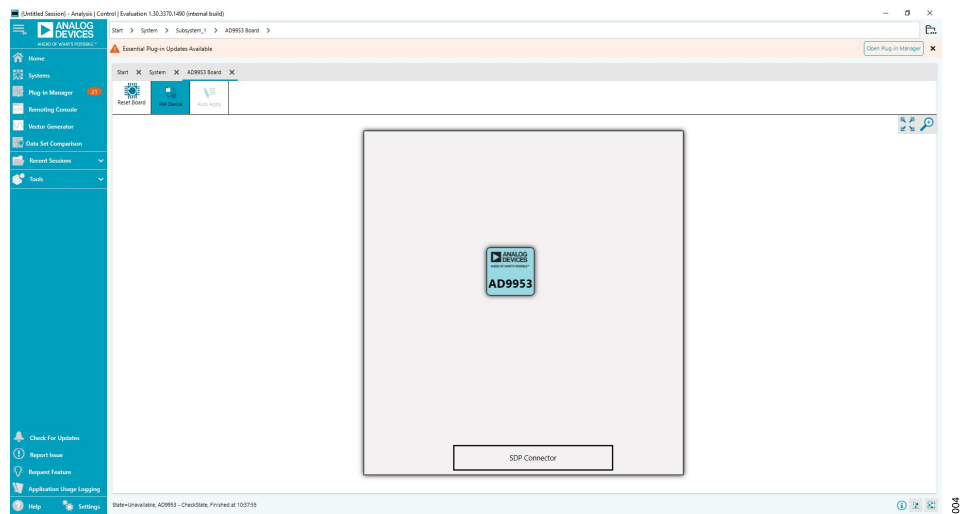

Figure 4. ACE Software AD9953 Evaluation Board Page
2. Double-click the **AD9953 Board** icon and the tab shown in the Figure 4 then appears.